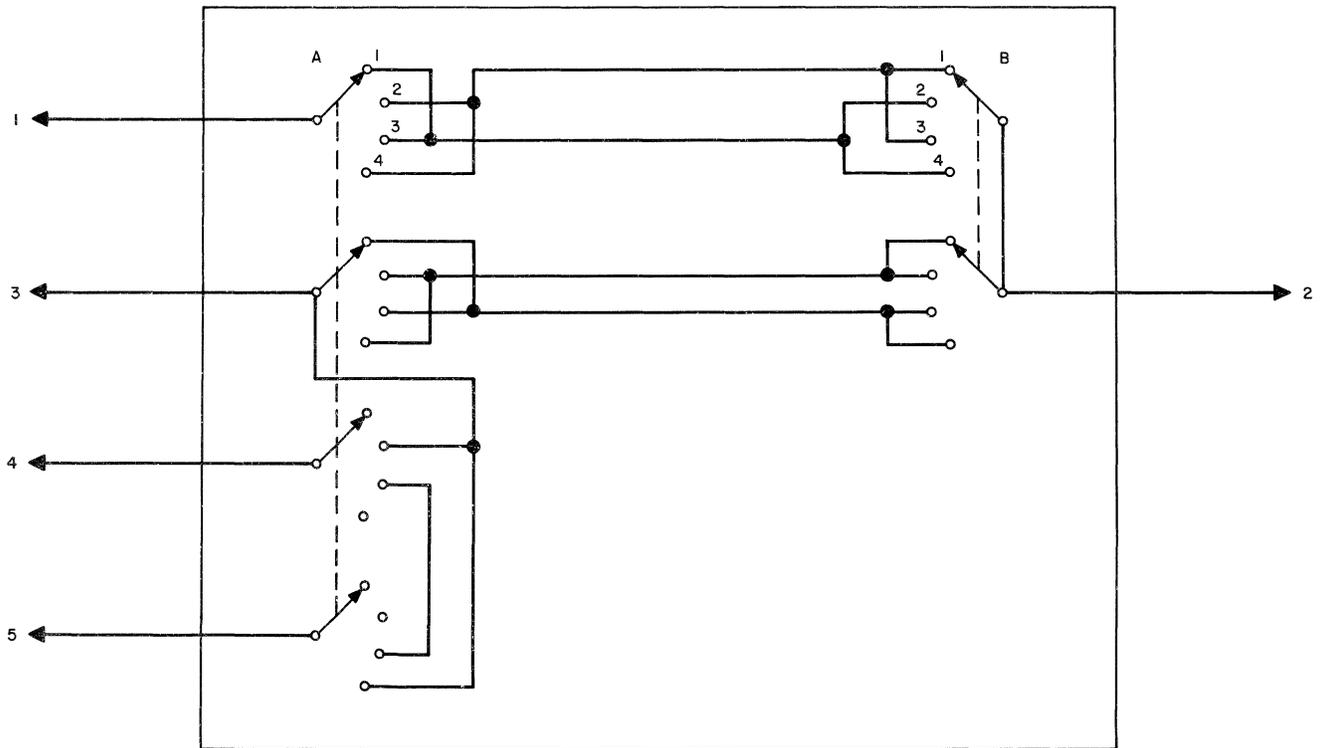

Fig. 22 — Automatic Gain Control 2 Test
(2) Located on the AGC2 card are five numbered strapping pins. This section of the test will determine which pins, if any, are to be strapped. Connect the test set shown in Fig. 22 to the five strapping pins located on the AGC2 card. Set both switches to position 1.